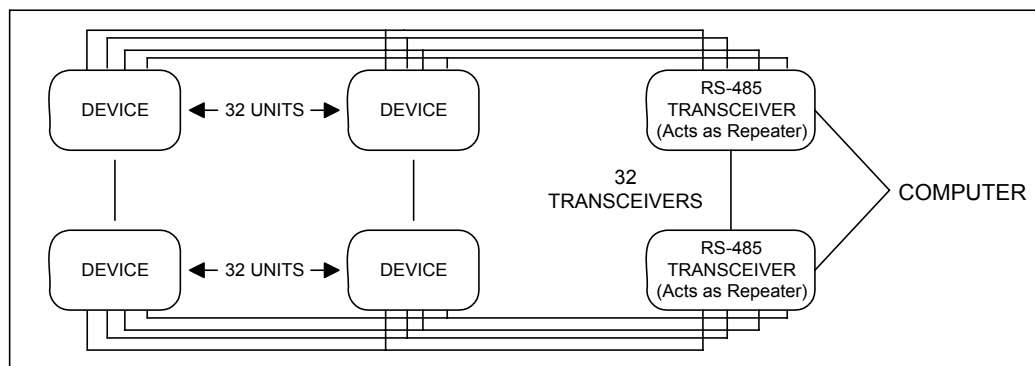

FIGURE 4-8: 4-Wire RS-485 Communication Installation Connection with Transceiver
- In a four-wire connection, a maximum of 3600 instruments can be included in the same network (**Figure 4.8**).